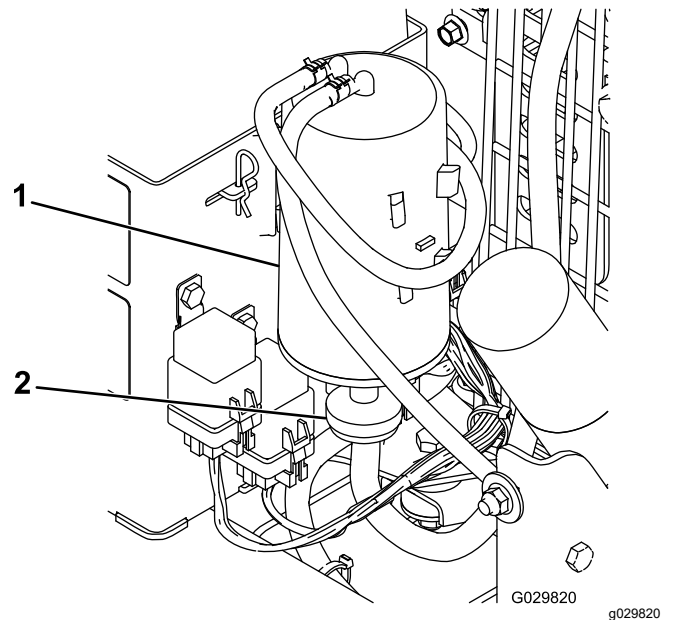

Figure 38
2. Remove and discard the carbon canister air filter (Figure 38).